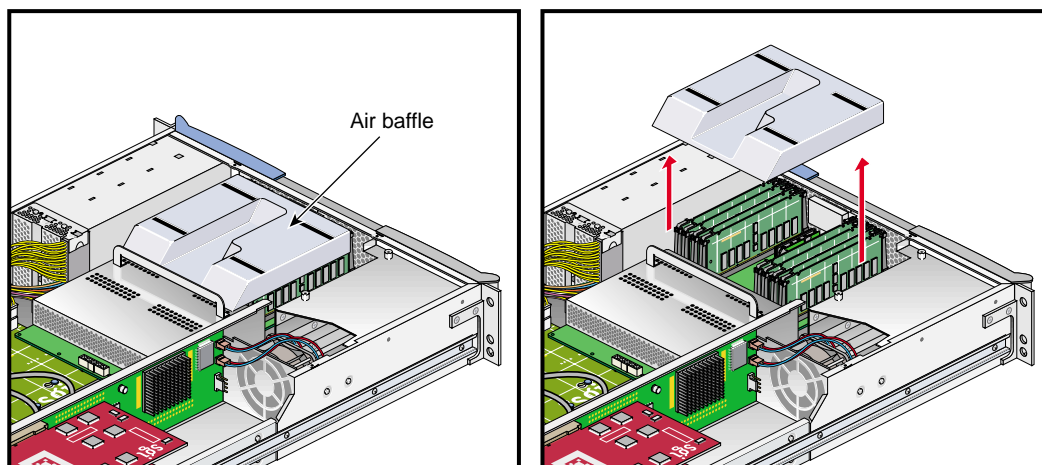

Figure A-10 Removing the Plastic Air Baffle
6. Remove the plastic air baffle covering the DIMMs, as shown in Figure A-10.